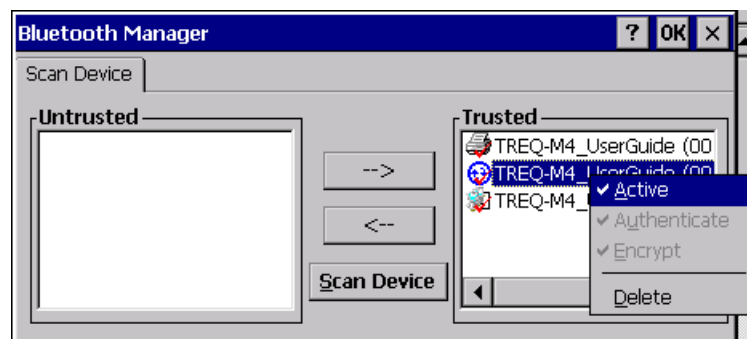

Figure 38
2. After moving this service to the “Trusted” window in the Bluetooth Manager, right-click on the service, and select the **Active** option from the resulting menu (see Figure 38). This registers a virtual com port or Bluetooth serial port on the terminal, and it assigns the new serial port a device name with the prefix BSP. At this point, the index associated with this prefix is unknown to the user.
2. After moving this service to the “Trusted” window in the Bluetooth Manager, right-click the service, and select the **Active** option from the resulting menu (see the third service icon in Figure 38 above). This registers a new network connection with Windows CE.